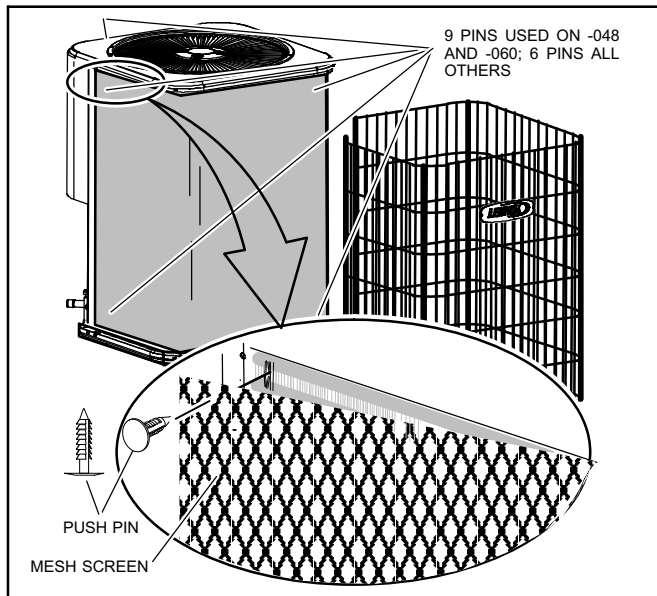

Figure 24. Cleaning Debris from Mesh
2. The outdoor coil is protected by an inner mesh screen and a wire cage (see figure 24). If debris has collected between the mesh screen and the coil and cannot be dislodged by spraying unpressurized water from